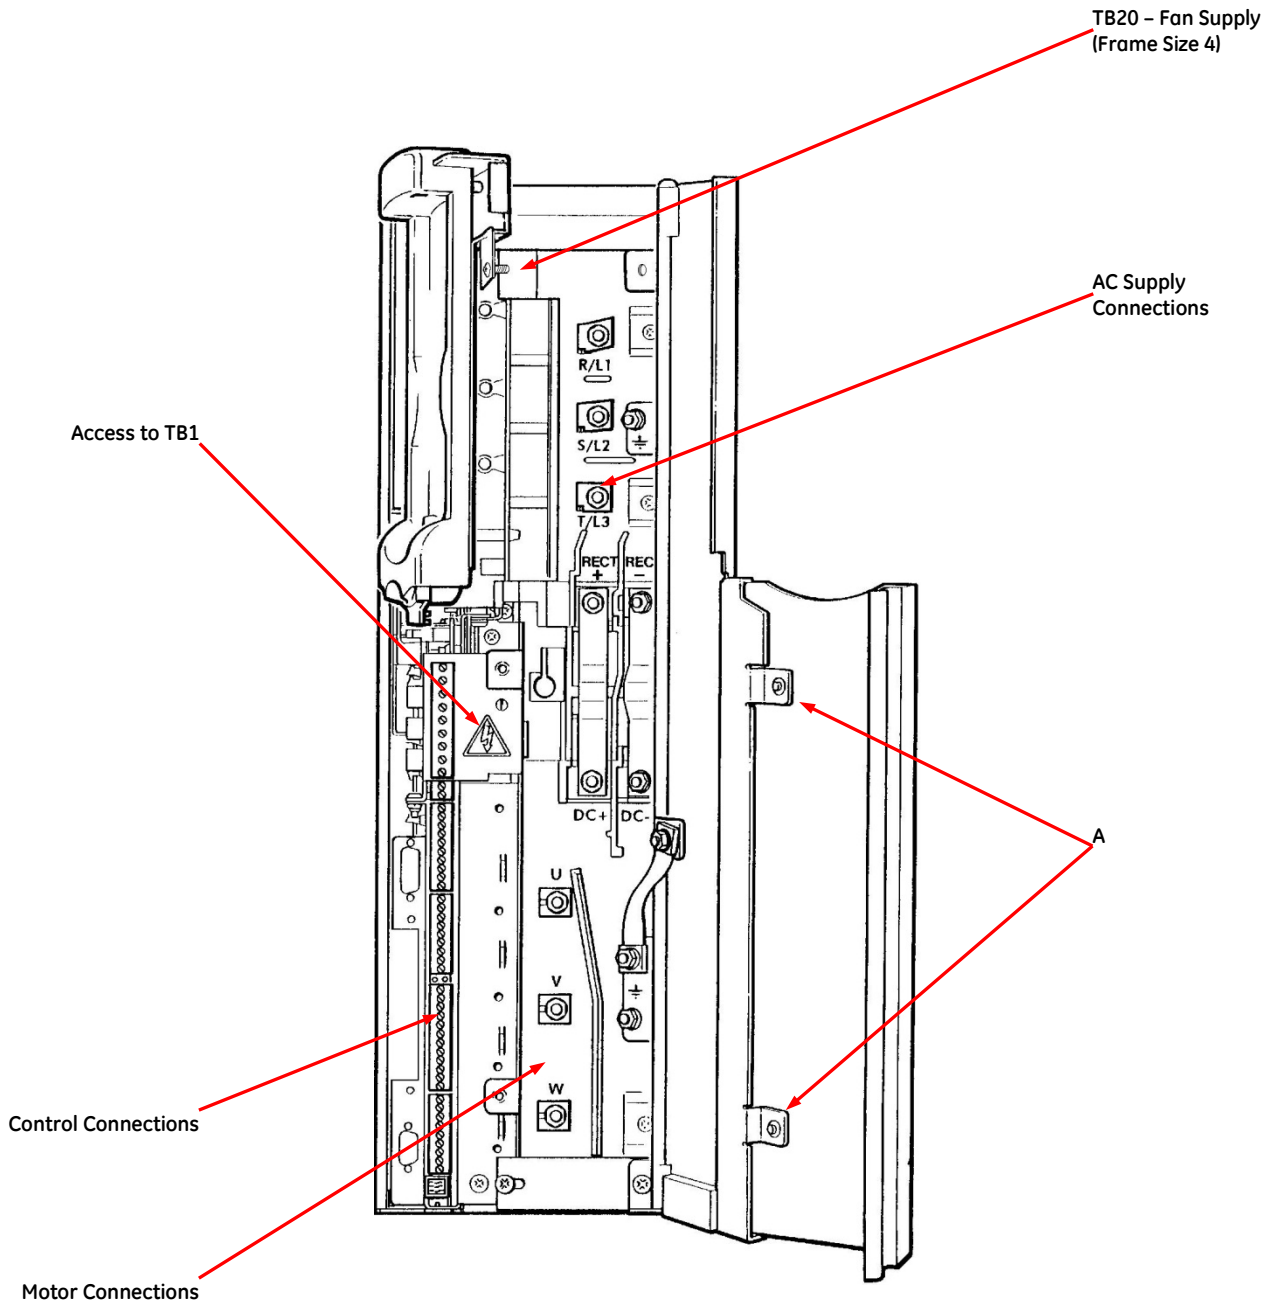

Figure 3-7. – Typical Front View with doors open
- a) For frame size 4 drives, remove the plastic screen from the fan supply connector TB20. See Figure 3-7.
- a) Remove the plastic shroud from the fan supply connector TB20 (see Figure 3-7).
- e) Close the power door, secure with screws A (Figure 3-7), close the control door.
- e) Close the power door; secure with screws A (Figure 3-7). Close the control door.